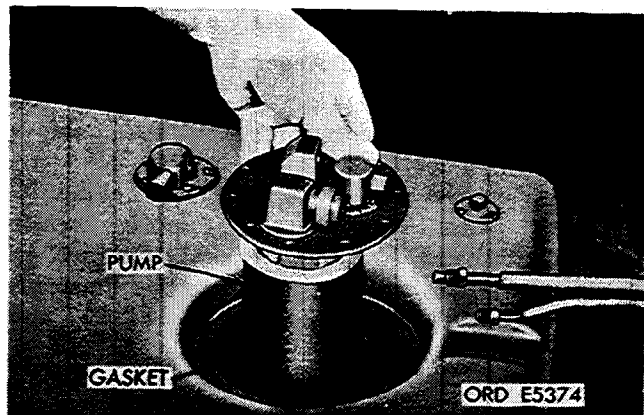

Figure 2-109. Remove pump and gasket (M151, M151A1, M151A1C, and M718).
(3) Lift fuel pump or fuel tank cover out of tank. Removal and discard gasket (fig. 2-109).
b. *Installation.* Clean gasket surfaces on fuel pump (M151, M151A1, M151A1C, and M718) or fuel tank cover (M151A2, M825, and M718A1), and fuel tank before installing pump or cover and gasket. Install pump or cover by reversing removal operations (3) back to (1). Refer to figures 2-109 and 2-108.